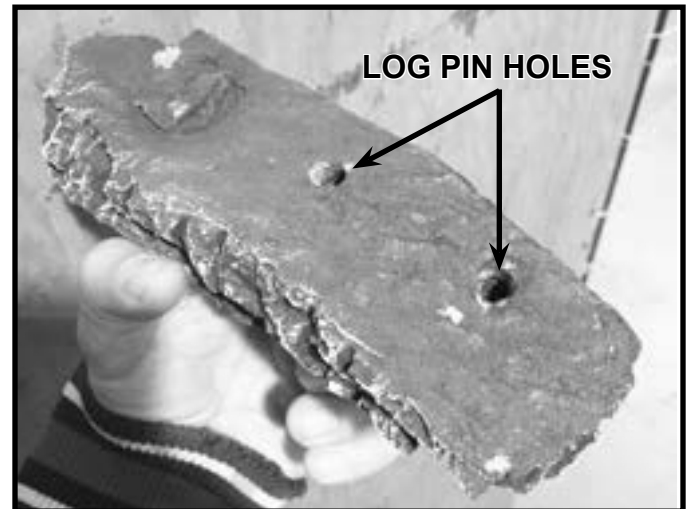
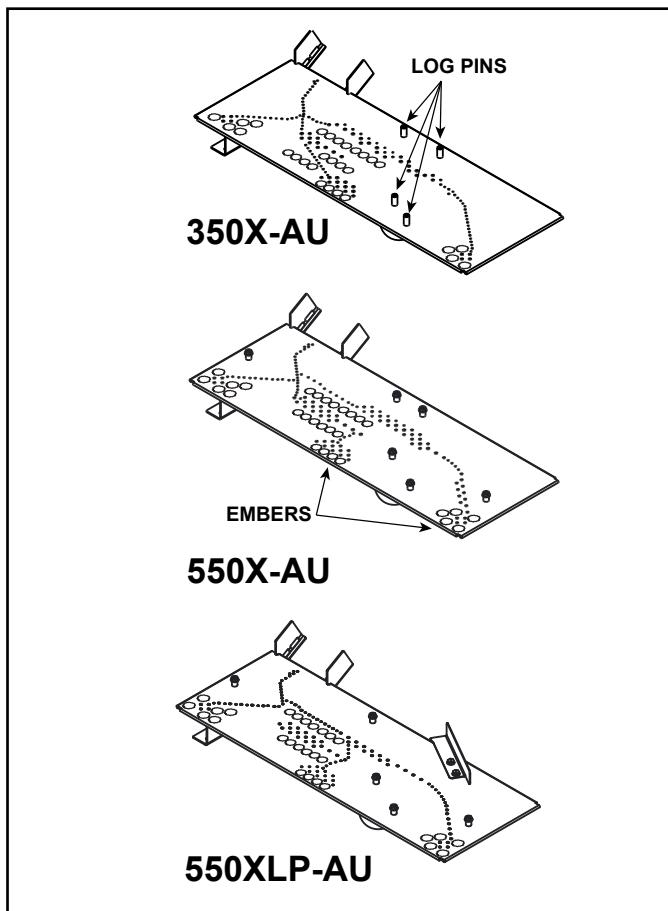

Figure 2. Example of Log Pin Holes
Figure 1. Log Pin and Glowing Ember Locations
The overall size and placement of the burner assembly within the firebox is very similar between all sizes. However, each burner top has different burner ports and log pin configurations. See Figure 1 for log pin locations.
- The rear left log, rear right log and small burner log utilize holes in the bottom side of the logs that correspond to the log pins on the burner. Reference Figure 1 and Figure 2.
3. Remove the Glowing Embers® from packaging and install the ember material as shown in Figure 1. Care should be taken to avoid placing ember material directly over ports and to avoid using excessive amounts of ember material.